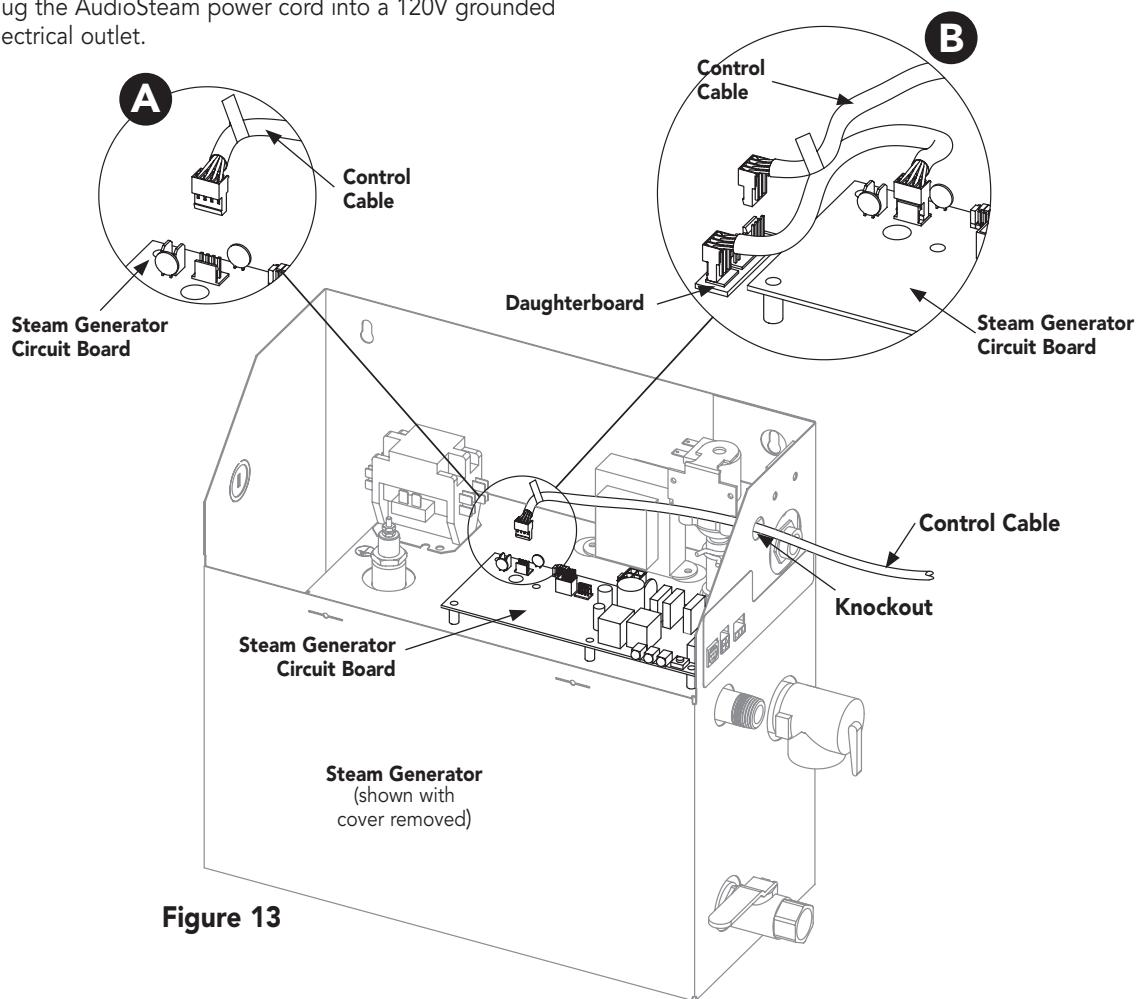

Figure 13
3. Connect the control cable directly to the steam generator's circuit board (**A** in Figure 13), **OR** if an additional accessory is installed in the steam generator, connect the control cable to the supplied daughterboard (**B** in Figure 13).